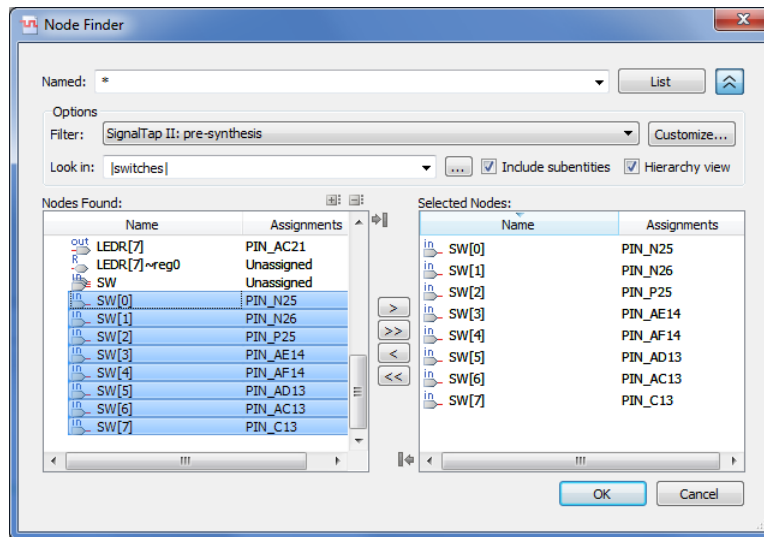

Figure 8. Adding nodes in the Node Finder window on a DE-series board.
3. We now need to add the nodes in the project that we wish to probe. In the Setup tab of the SignalTap II window, double-click in the area labeled Double-click to add nodes, bringing up the Node Finder window, as shown in Figure 8. Click on  to show more search options. For the Filter field, select SignalTap II: pre-synthesis, and for the Look in field select |switches|. Click List. This will now display all the nodes that can be probed in the project. Highlight SW[0] to SW[7], and then click the > button to add the switches to be probed. Then click OK.